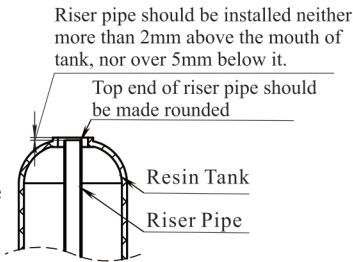
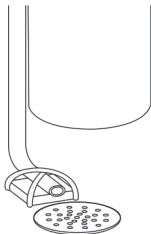

Figure 1
Figure 2
①The filter should be as much close to the drain outlet as possible; and better make sure to install the system at the place where no much loss would be caused in case of water leakage.
②As in Figure 1, riser pipe should be installed neither more than 2mm above the mouth of tank, nor over 5mm below it, with its top end being made rounded to avoid damaging the O-ring of riser pipe.
③Make sure not to slide off the O-ring of base when you install the valve.
④Keep inlet and outlet pipelines parallel with one another, and fix them with support holder.
⑤ It's forbidden to use pipelines or connectors as supporting or lifting tool; Do not tighten or unscrew thread pipes with too much force, in case of damaging the valve.
⑥PPR pipe, corrugated pipe and UPVC pipe are recommended in pipeline construction instead of polyethylene-aluminum pipe.
⑦The control valve should be mounted above the drain outlet.
⑧As in Figure 2, it's forbidden to connect the drain pipeline directly to the drain outlet. Some certain space is needed in between in case that dirty water is siphoned back to the device.
⑨Handle and hand wheel can only be rotated to right or left, within its limits, and can't be flipped up and down.